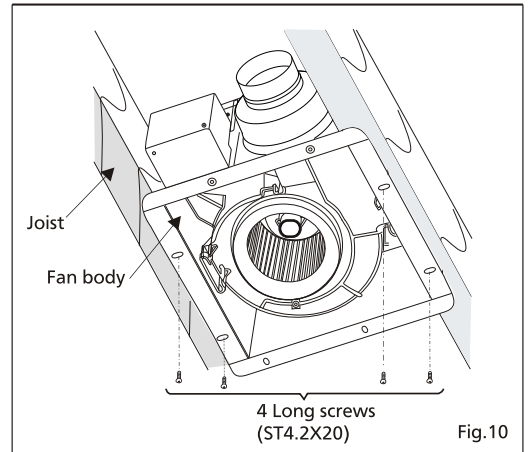

Fig.10
2. Secure 4 long screws (ST 4.2X20) at flange of frame. (Fig.10)